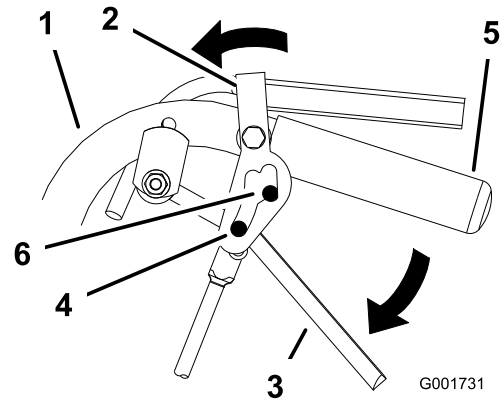

Figure 9
2. Place your thumbs on the upper part of the locks and move them forward until the pins are in the forward slot (Figure 9).